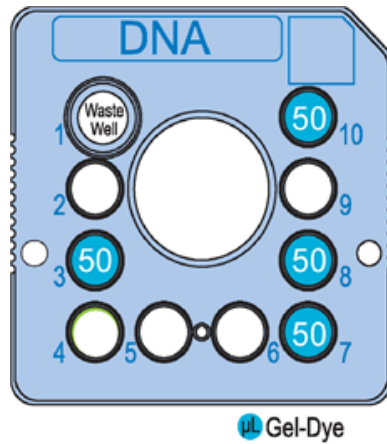
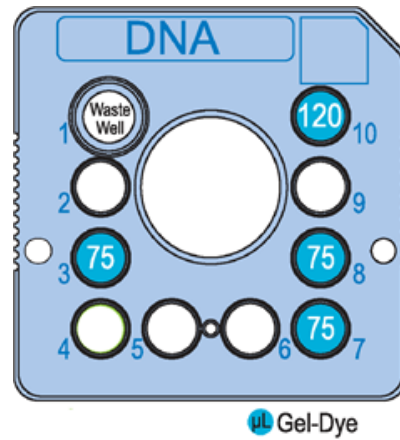

Figure 5. Reagent placement for Low-throughput (up to 48 samples)
Figure 6. Reagent placement for High-throughput (up to 192 samples)
- 5 Using a reverse pipetting technique, add **Gel-Dye solution** to chip wells **3, 7, 8, and 10** as shown in Figure 5 (Low-throughput) or Figure 6 (High-throughput).